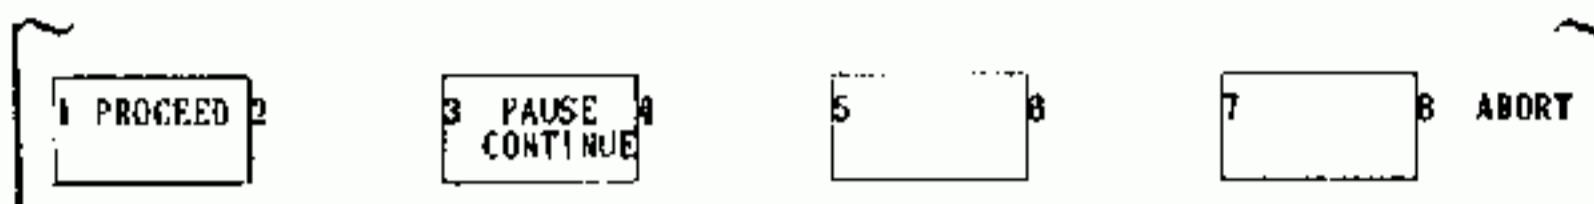

Fig. 5.2.121
4. If any miscomparison is found, labels shown in Fig. 5.2.121 are displayed. Depressing "PROCEED" key continues the VERIFY operation but "ABORT" key returns to the display shown in Fig. 5.2.104.